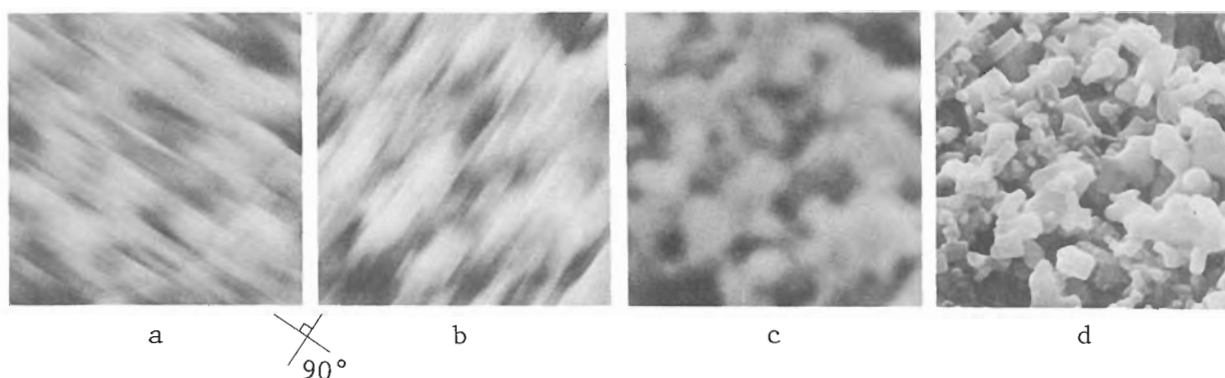

Fig. 3.8 Astigmatism correction
4. Turn the **STIGMATOR X** control clockwise and counterclockwise and ascertain the positions where the image blurring directions are mutually perpendicular. Once ascertained, set the control to midway between the two positions. That is, position the control so that the new image blurring direction bisects the orthogonal blurring directions (see Fig. 3.8 a, b, c).